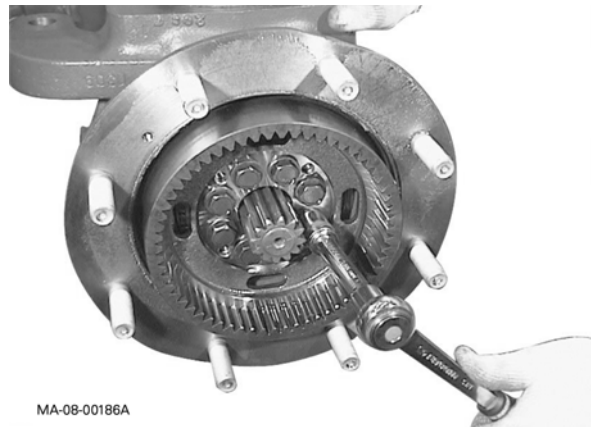

Fig. 10
11. Loosen and remove the screws from the ring gear carrier assembly (Fig. 10).